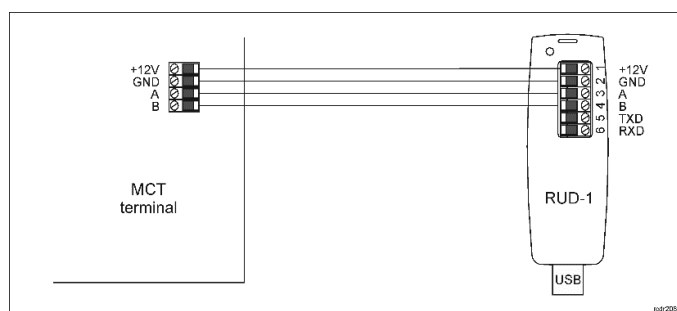

Fig. 1 Connection of MCT terminal to RUD-1 interface
1. Connect the device to RUD-1 interface (fig. 1) and connect the RUD-1 to computer's USB port.
The firmware of device can be changed to newer or older version. Main firmware can be uploaded to the terminal by means of included memory card. The keyboard firmware update requires connection to computer with RUD-1 interface (fig. 1) and starting RogerVDM software. The latest firmware file is available at www.roger.pl.